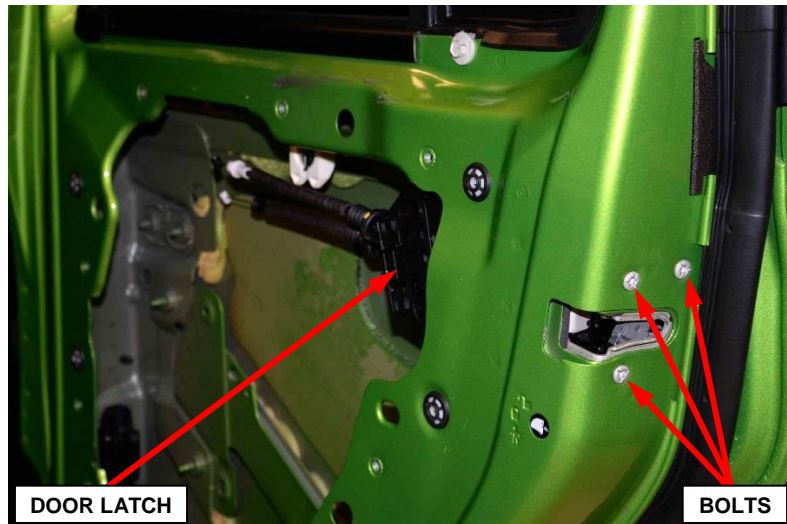
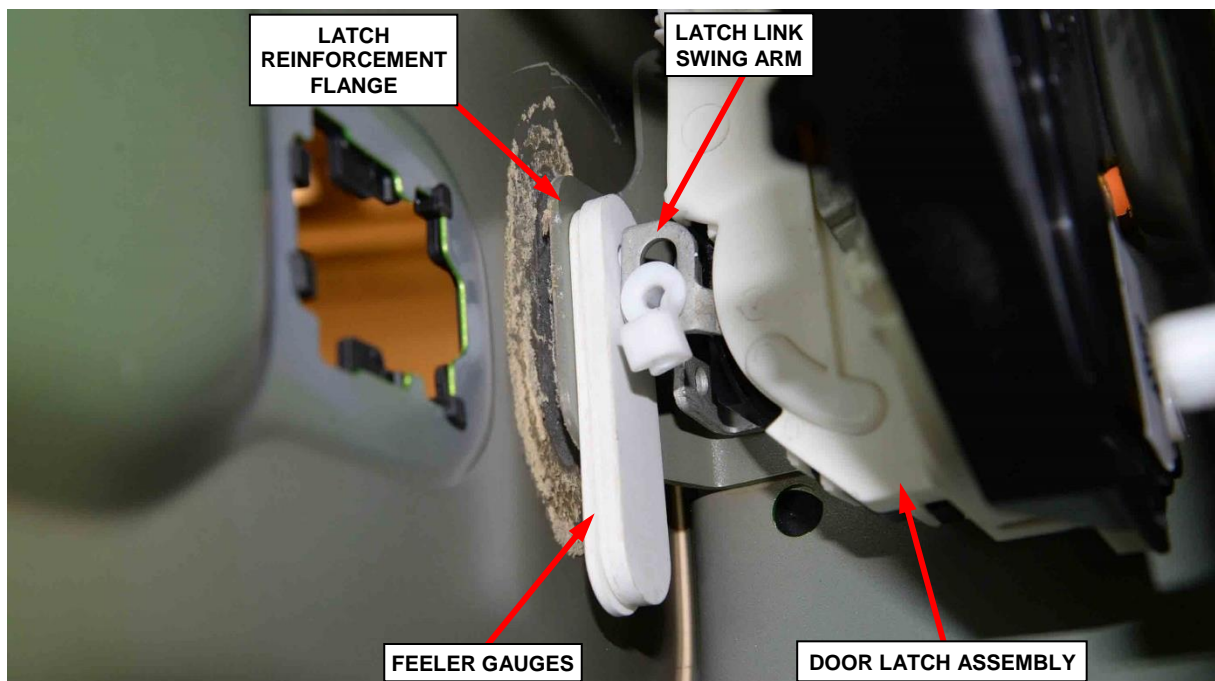

Figure 21 – Temporally install the latch assembly
Figure 28 – Measure Between the Latch Link Swing Arm and Latch Reinforcement Flange
36. Temporally install the latch assembly in the door and secure with the three mounting bolts (Figure 21).
46. Temporally install the latch assembly in the door as described in **Step 36** (Figure 21) then measure the distance between the latch link swing arm and latch reinforcement flange (Figure 28). Remove the three mounting bolts and the latch assembly from the door after taking measurement.
50. Temporally install the latch assembly in the door as described in **Step 36** (Figure 21) then measure the distance between the latch link swing arm and latch reinforcement flange (Figure 28). Remove the three mounting bolts and the latch assembly from the door after taking measurement.